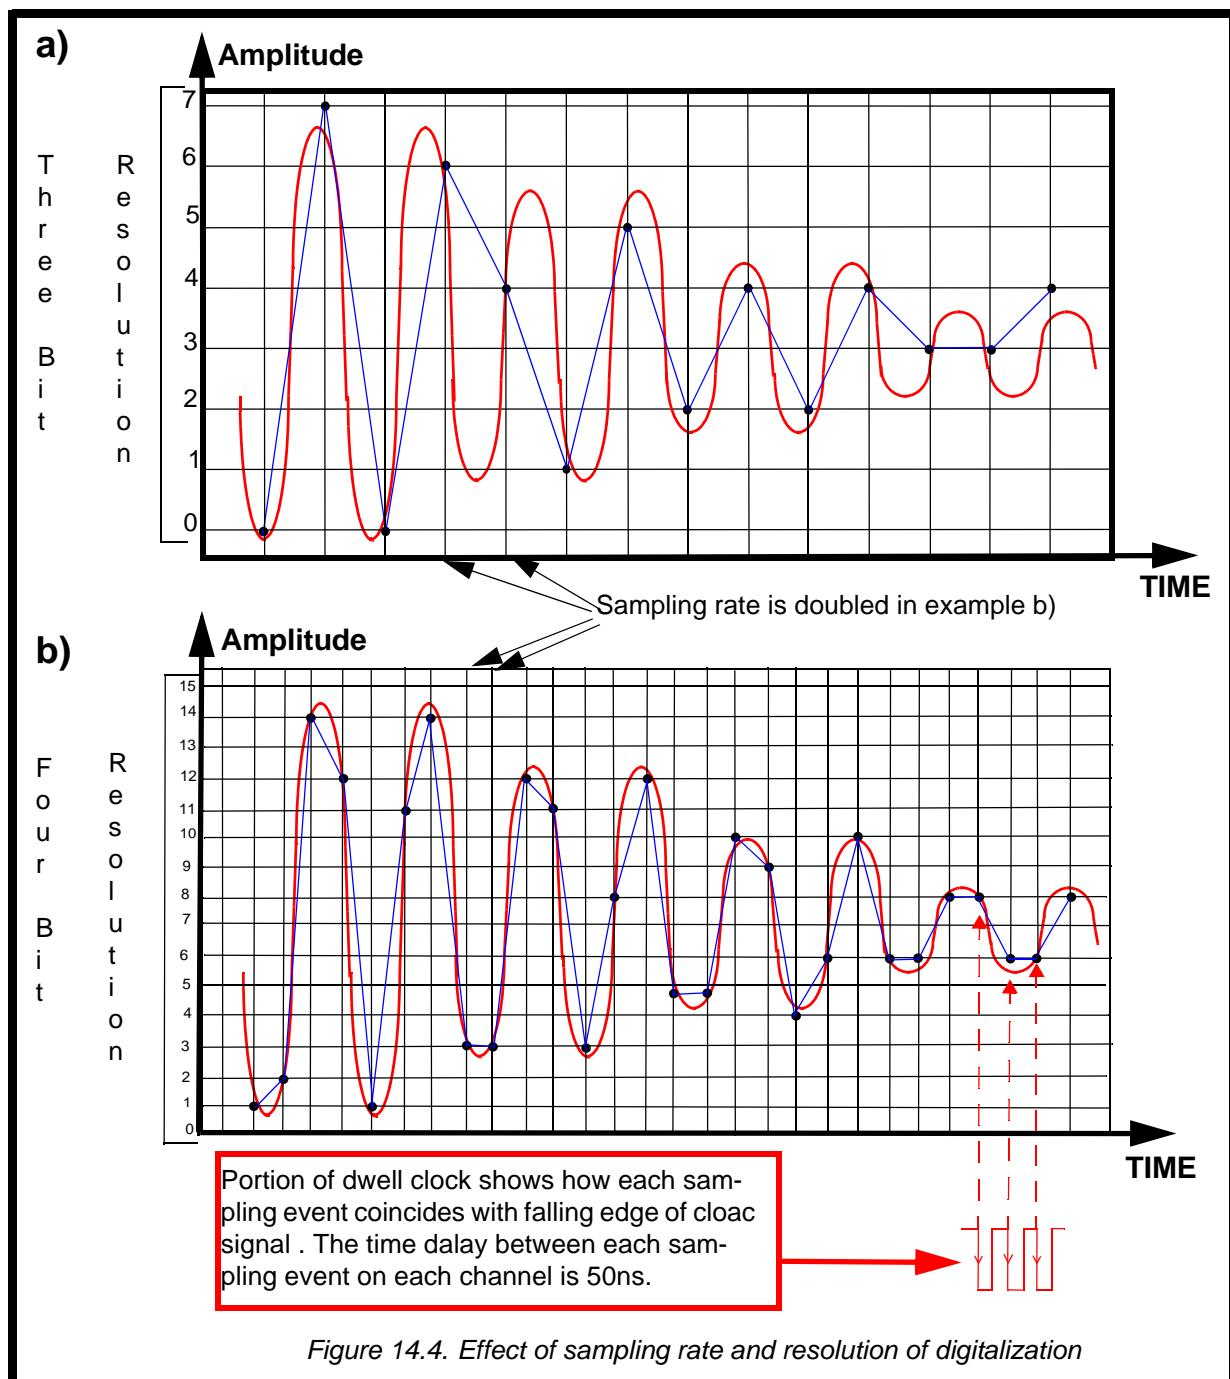

Figure 14.4. Effect of sampling rate and resolution of digitalization
Modern processing of information is entirely digital and the next step after amplification of the NMR signal within the RXAD is digitalization. Digitizers work on the ‘sample and hold’ principle whereby in a repetitive manner the sample is analyzed and its amplitude determined. The amplitude is ‘held’ at a fixed value for a short period of time to enable the ADC to assign a value to this amplitude. This is all done at a set rate (the sampling rate) to build up a digital (quantized) picture of the analog signal as in Figure 14.4. The time interval between successive sampling events is called the dwell time and has the value of 50ns in the RXAD. The RXAD is constantly digitizing but the DRU discards the digitized data (actually it sets it to zero) until it receives the command pulse (RGP_ADC) from the OBS SGU. This command is simply a signal that initiates the storing (as opposed to storing zeros) of the digitized data. This method is used to minimize the disturbance (i.e. noise)
Assuming that the dwell time (DW) is sufficiently short, then, the greater the number of bits assigned to each amplitude determination, the more accurate the digital representation of the analog signal (see Figure 14.4). The two most important features of digitizers are thus the minimum dwell time and the resolution which are discussed below.